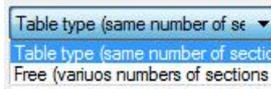

Figure 45. Drop-down menu «**Structure**»
- **Structure** field contains information about the structure of the freezer (Fig. 45). The list is displayed when you press the down-arrow button  on the right side of the field